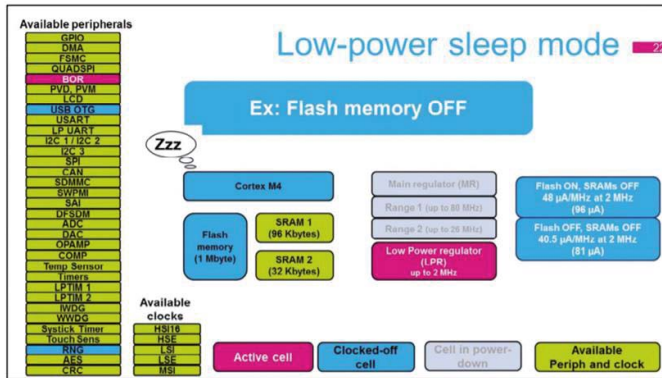

Figure 15.6: Low-power sleep mode.
**Low-power sleep mode:** in this mode (Figure 15.6) the CPU clock is OFF, the system clock is reduced to 2 MHz. Flash memory can be gated off. All peripherals can be activated except the USB OTG and Random Number Generator. the power consumption is 40  $\mu\text{A}/\text{MHz}$  at 2 MHz with Flash and SRAM OFF.